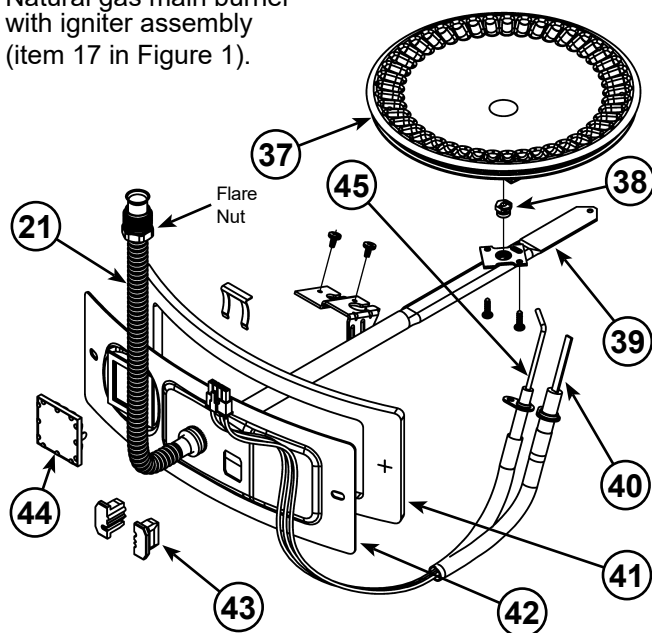
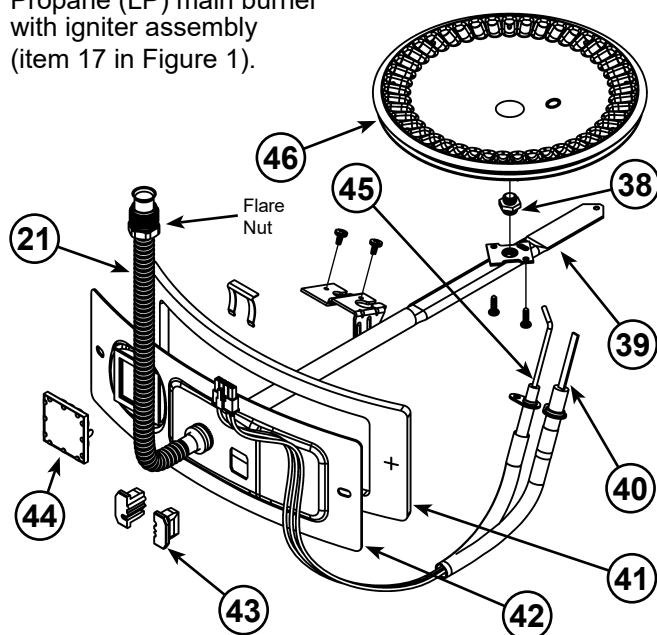
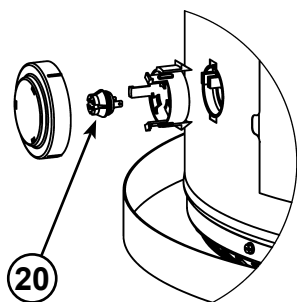
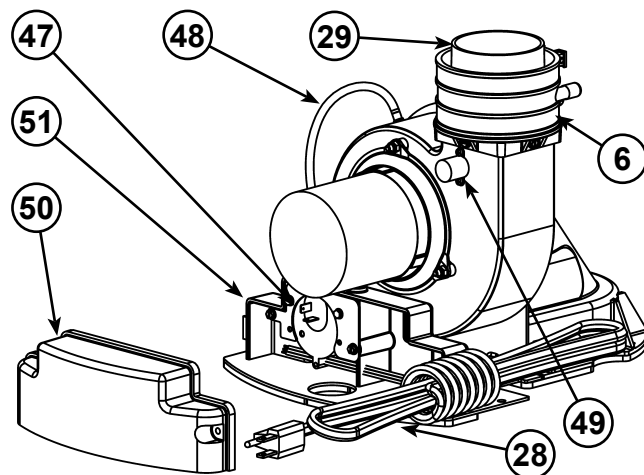

Figure 3.
Figure 4.
Figure 5.
Figure 6.
| 1 Vent Termination Elbow with Rodent Screen | 17 Manifold Door Assembly (behind outer door) (see Figure 3 (NG) or Figure 4 (LP)) | 36 *Thermal Expansion Tank (required for all closed systems) |
| 2 *Vent Pipe | 18 *Floor Drain | 37 Aluminum Burner (see Figure 3) |
| 3 *Vent Pipe Coupling (if required) | 19 *Metal Drain Pan | 38 Gas Orifice (see Figure 3) |
| 4 CPVC Vent Pipe (5 ft. supplied) | 20 Flammable Vapor Sensor (under cover) (see Figure 5) | 39 Gas Manifold (see Figure 3) |
| 5 *CPVC Vent Pipe Elbow (long radius) | 21 Flexible Manifold Tube (see Figure 3) | 40 Hot-Surface Igniter (see Figure 3) |
| 6 Gear Clamp (see Figure 6) | 22 *Sediment Trap | 41 Manifold Door Gasket (see Figure 3) |
| 7 T&P Valve | 23 *Ground Joint Union (gas connection) | 42 Manifold Door (see Figure 3) |
| 8 **Combo Heating System Supply Outlet (Optional) | 24 *Main Manual Gas Shut-off Valve | 43 Two Piece Grommet With Clip (see Figure 3) |
| 9 Cold-Water Inlet Nipple/Diptube | 25 *Gas Supply* | 44 Viewport (see Figure 3) |
| 10 * Discharge Pipe | 26 Baffle Assembly | 45 Flame Sensor Rod (see Figure 3) |
| 11 Gas Control Valve/Thermostat (Honeywell/Resideo) | 27 Rating Plate | 46 Stainless Steel Burner (see Figure 4) |
| 12 Gas Valve Electronic Control Module And Cover (Honeywell/Resideo) | 28 Blower with Power Cord (see Figure 6) | 47 Air Switch (inside box) (see Figure 6) |
| 13 **Combo Heating System Return Inlet (Optional) | 29 *Rubber Coupling (see Figure 6) | 48 Air Tubing (see Figure 6) |
| 14 ***Control Harness | 30 *Inlet Water Shut-off Valve | 49 Blower High Limit Switch (see Figure 6) |
| 15 Drain Valve | 31 *Union (water connection) | 50 Junction Box Cover (see Figure 6) |
| 16 Outer Gas Door | 32 Hot-Water Outlet Nipple | 51 Junction Box (see Figure 6) |
This device is located on the blower (see Figure 6, item 49) and limits the maximum temperature of the blower. If the blower temperature rises above the temperature setting, the switch opens causing the heater to shut down. The switch will auto reset once the temperature drops sufficiently.
This device, located in the junction box, monitors the air pressure produced by the blower. In the event that the exhaust venting becomes blocked or sufficiently restricted, the switch will shut the heater down (see Figure 6, item 47). If the water heater has not gone into a soft lockout condition, the heater will restart after the blockage is removed (see “Resetting The Heater Control”).